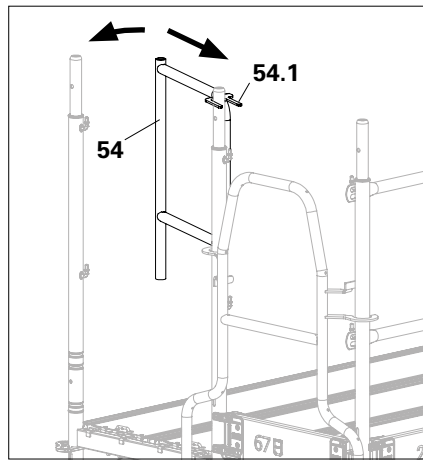

Fig. A3.13
1. Push the fork (54.1) onto the tube positioned opposite. (Fig. A3.13)